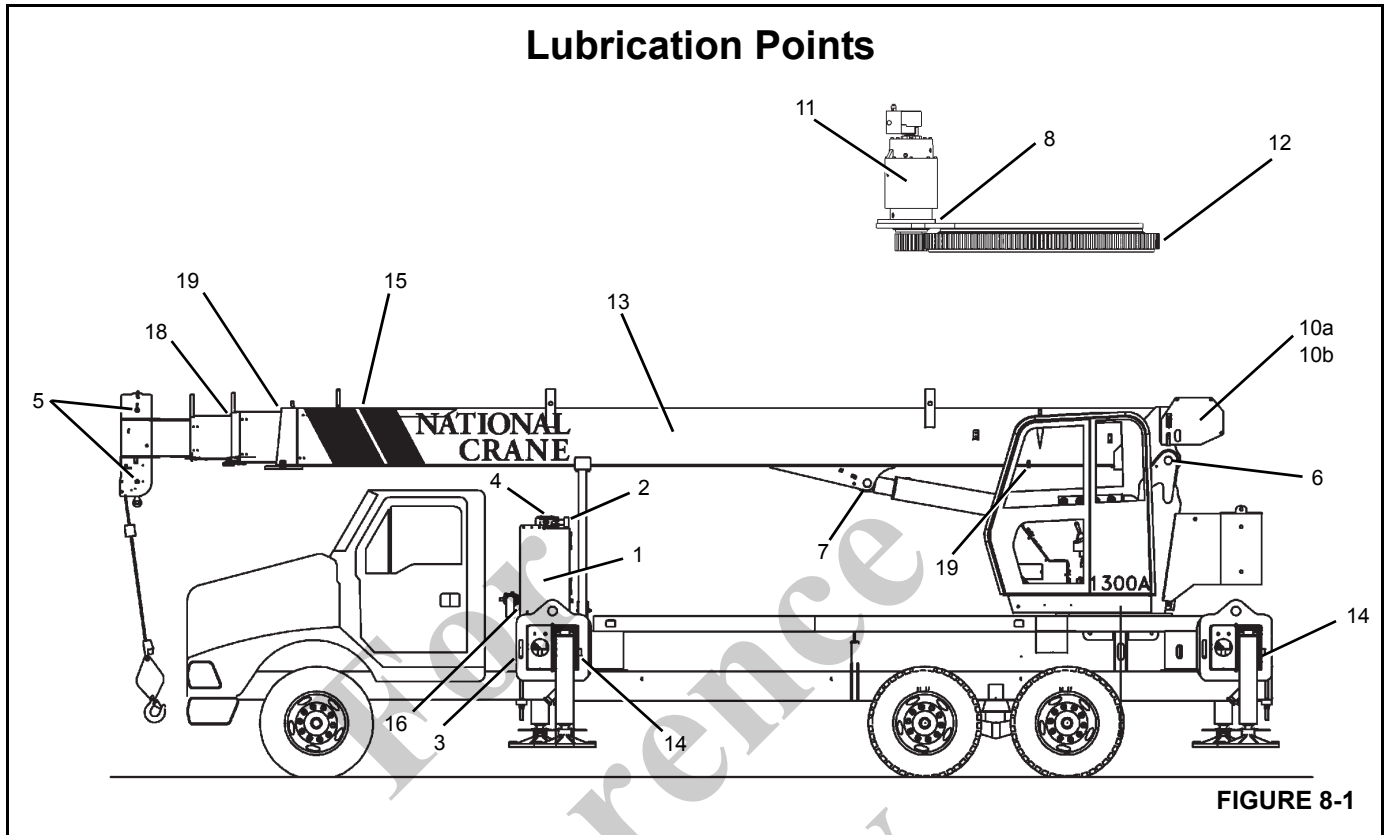

FIGURE 8-1
Chart (Figure 8-1). Lube description and symbols are found in the table below.
2. Lubricate the pin for the extend cable sheaves (18) (Figure 8-1) until a small amount of grease extrudes from the pin. From in front of the boom, look back